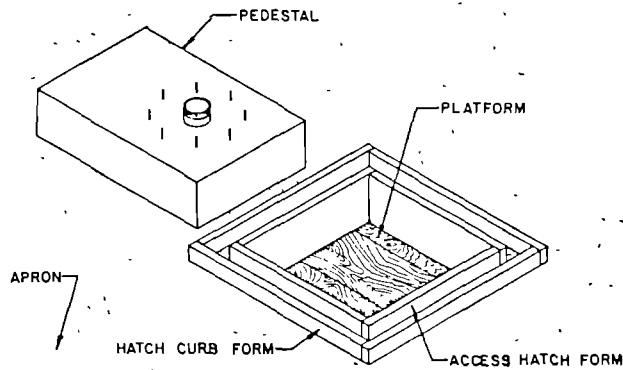

Figure 9. Constructing Hatch Curb
Construct a curb around the hatch opening as shown in Figure 9. using the hatch curb form described in Handout 5-8, p. 13. The curb should be five (5) cm in height and width. Plaster over the curb with a one (1) cm thick 1:3 cement/fine sand rendering.